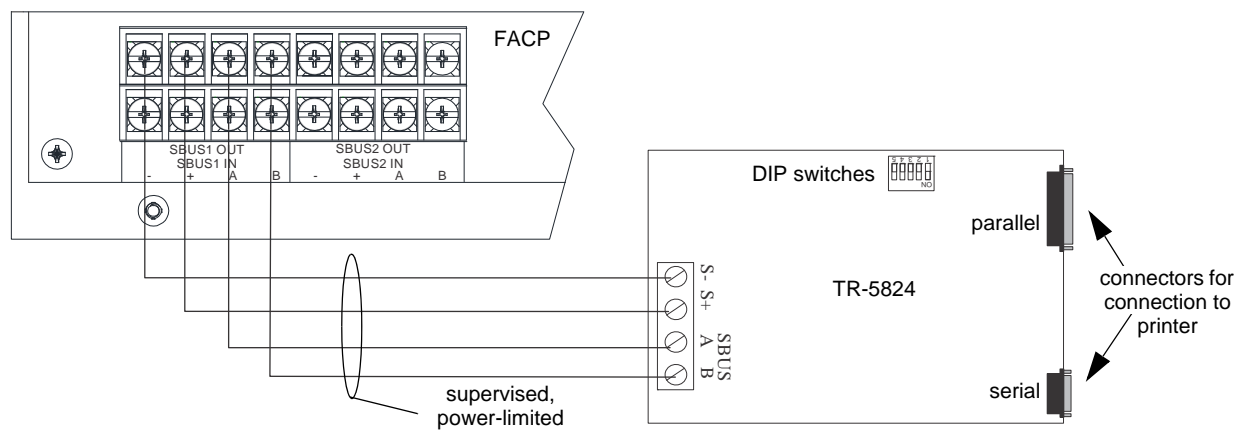

Figure 4.26 TR-5824 Connection to the Panel
2. Connect the TR-5824 to the FACP as shown in Figure 4.26.